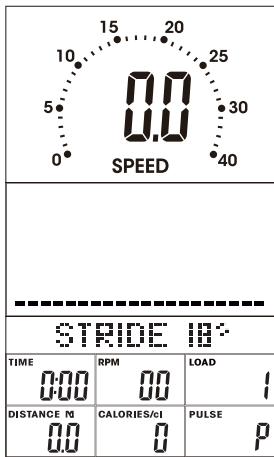

FIGURE 41
1. After displaying all segments, the screen will display STRIDE 18" (FIGURE 41)